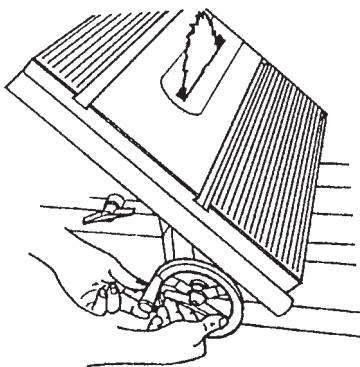

Figure B-69
36. Lower the worktable so the saw blade extends through the slot. See Figure B-69. Lock the table height.